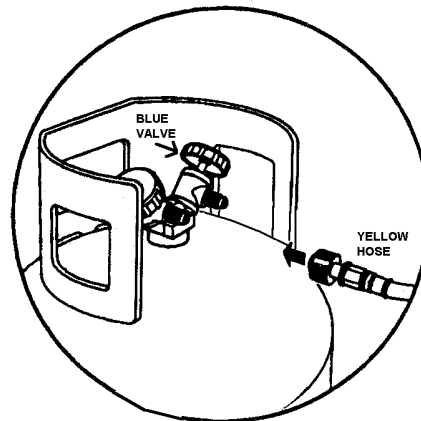

FIGURE 2 RECOVERY TANK
1. Referring to FIGURE 2, open the **BLUE** valve on Recovery Tank to release ALL COMPRESSED AIR.
4. Attach open end of Yellow Hose to **BLUE** valve on Recovery Tank (Refer to FIGURE 2). Attach other end of Yellow Hose with the anti-blow back valve to the service port on side of unit Marked **R-12 Recycle**. Open ball valve on yellow hose.